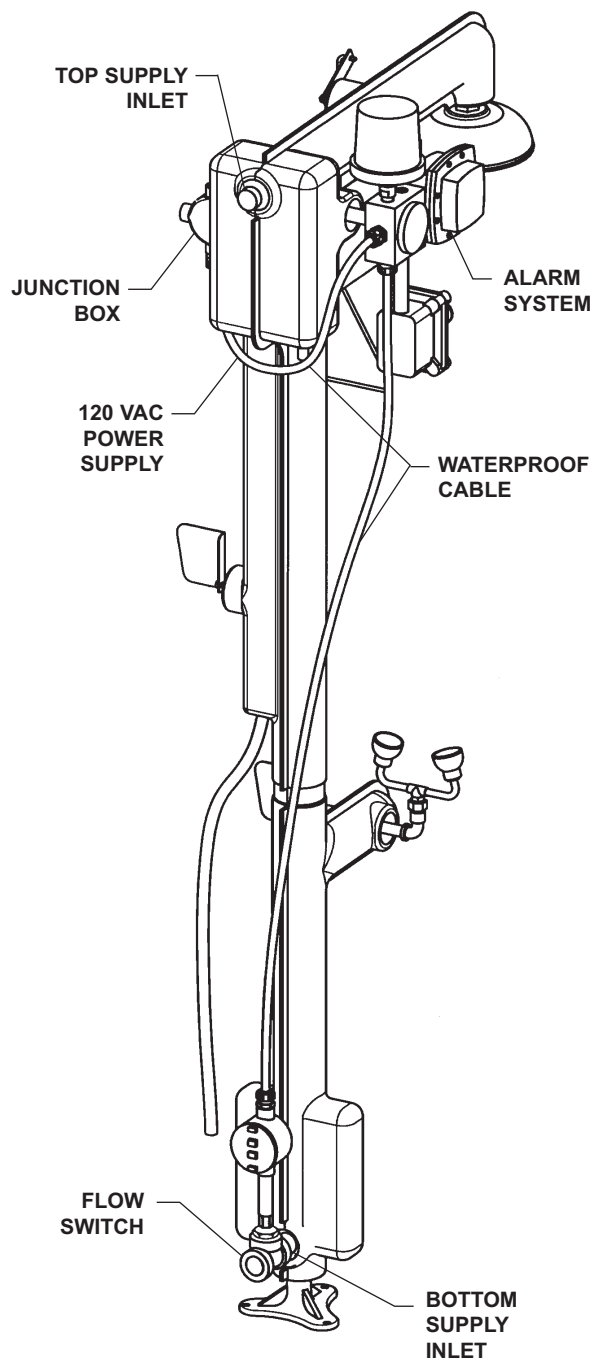
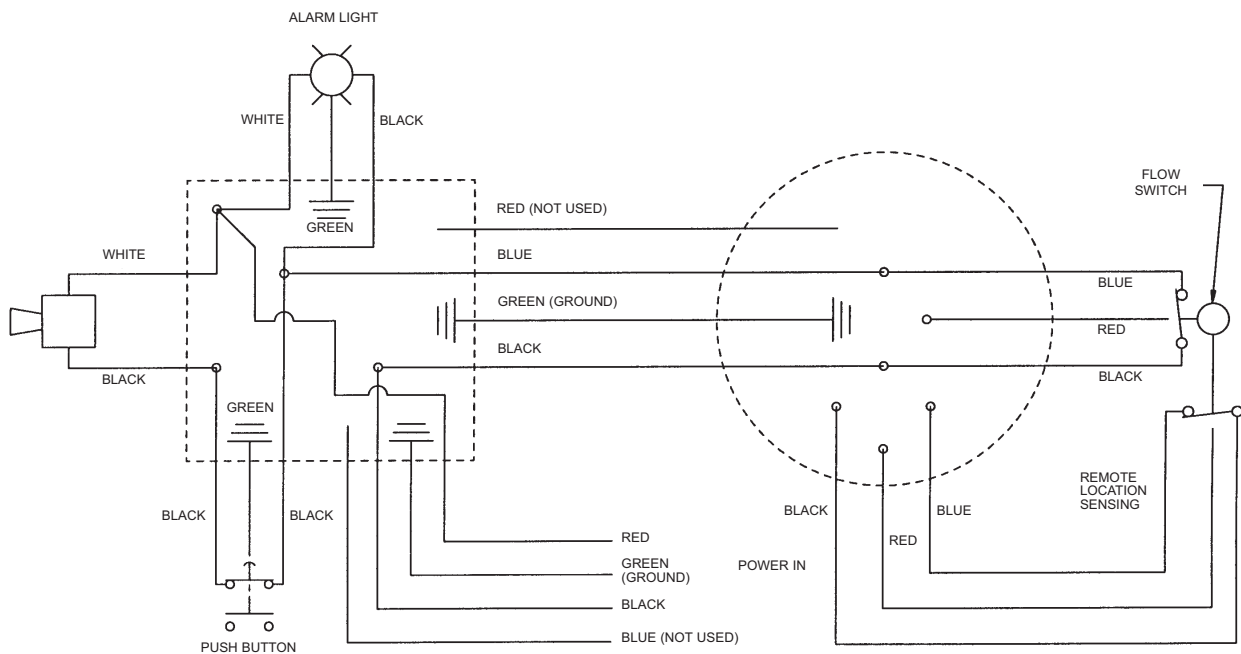

Figure 1
Figure 2
NOTE: Because the flow switch will attach to the mounted alarm via a 7-foot waterproof cable, the installer must keep the location for mounting the alarm in mind when choosing the flow switch location (see Figure 1).
1. Choose a location for mounting the flow switch in a horizontal run of the water supply line. The inlet and outlet ports of the flow switch must be a minimum of 6 inches from any tees or elbows in the water supply line (see Figure 1).
- The alarm may be mounted directly to the drench shower piping using the supplied mounting hardware (see Figure 1 on page 4).
1. Connect the flow switch to the alarm by installing a conduit connector to the end of the 7-foot waterproof cable and into the flow switch junction box (see Figure 1 on page 4 and Figure 2 below).